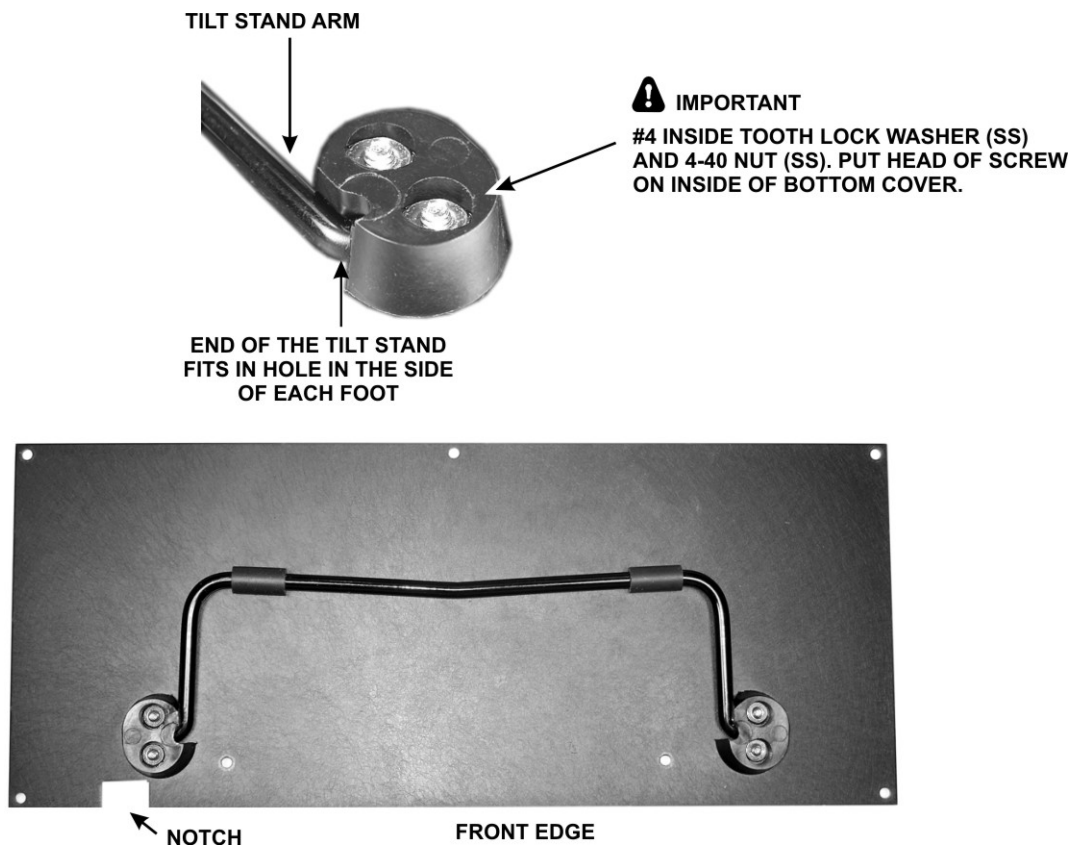

Figure 83. Installing Tilt Stand.
- Identify the bottom cover forward section by test fitting it on the bottom of the K3. The forward section is the thinner panel with a notch along one edge (see Figure 83).
- Attach the front feet and tilt stand to bottom cover section A as follows. Insert a 4-40 7/16" (11 mm) zinc pan head screw (SS) through the cover *with the screw head on the inside*, and place a foot over the screw on the outside (fully painted) of the cover. Orient the foot as shown in Figure 83. Place a #4 lock washer (SS) and 4-40 nut (SS) on the end of the screw inside the hole in the foot, and put your finger over the hole to hold the nut against the screw. Turn the screw to start the nut onto the threads but do not tighten it. Repeat the procedure for the second screw in the foot. Leave the foot as loose as possible without the hardware falling off.
- Install the tilt stand and second foot as shown in Figure 83. You may need to press the foot against the tilt stand to get the 4-40 7/16" (11mm) screws (SS) to pass through the cover and foot. Put a #4 lock washer (SS) and nut (SS) on each screw as you did before.